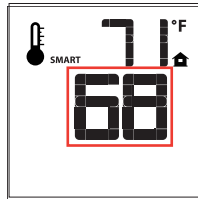

Figure 23 - Remote Control Displaying Smart Thermostat Function
1. To activate this function, press the Thermostat key until the word "SMART" appears to the right of the temperature bulb on the LCD screen (see Figure 23).